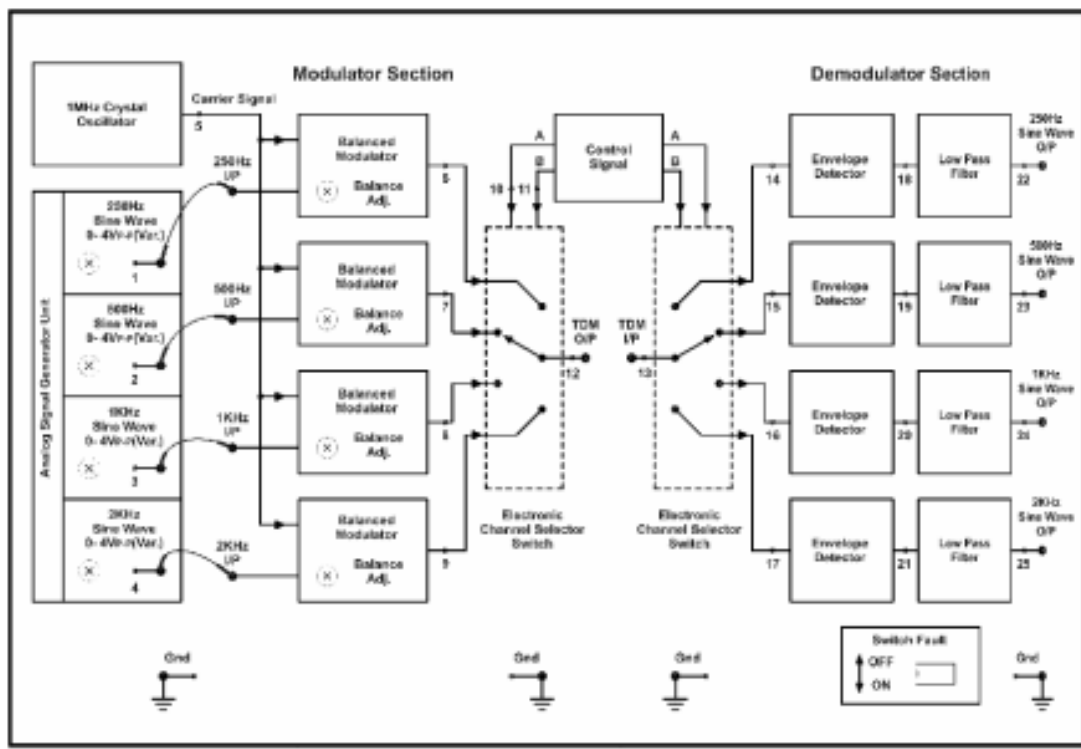

Figure 5
1. Make connection for the modulator section as shown in figure 5.